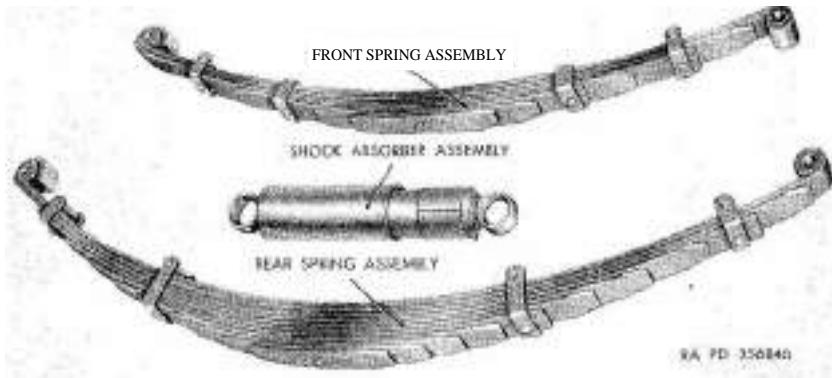

Figure 173. Spring and shock absorber assemblies.
a. *Springs* (fig. 173). The springs are semielliptic, consisting of a number of leaves held together by a center bolt and spring leaf clips. Attachment of the springs to the axle housings is accomplished with U bolt-type clips. Hardened steel bolts, operating in bronze bushing-type bearings, which are pressed into the eyes of the top spring leaf, attach the springs to the frame brackets and shackles. Ample capacity to absorb the braking and driving strains is provided by the additional wrap of the second spring leaf around the front end of each spring.
b. *Shock Absorbers* (fig. 173). Hydraulic, telescopic, cylindrical-type, triple-acting shock absorbers are provided at the front and rear axles. The shock absorbers are attached to the axles and frame brackets by rubber bushing-type bearings.
- (1) The following procedures are based on the assumption that the front spring assemblies (*fig. 173*) are removed from the vehicle. Refer to TM 9-840 for information pertaining to the removal and installation of front springs.
- (2) The inspection of the spring bolts and spring shackles is covered in paragraph 197c and d. Refer to TM 9-840 for information relative to the removal, installation, and adjustment of the spring bolts and spring shackles.
- (1) The following procedures are based on the assumption that the rear spring assemblies (fig. 173) are removed from the vehicle. Refer to TM 9-840 for information pertaining to the removal and installation of rear springs.
- (2) Inspection of the spring bolts and spring shackles is covered in paragraph 200c and d. Refer to TM 9-840 for information pertaining to the removal, installation, and adjustment of spring bolts and spring shackles.